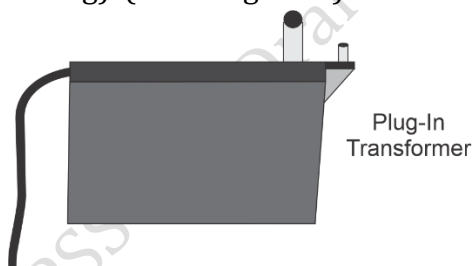

Fig. 1.42: Plug in Transformer
**Note: Plug in Transformer:** This type of Transformer is designed to be plugged into a 110V AC wall outlet. To avoid permanent damage to the transformer, sensor or solenoid valve, do not plug transformer into outlet until all wiring has been completed. (Refer Fig. 1.42)